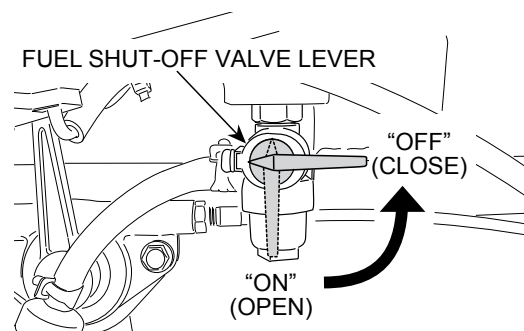

Figure 15. Fuel Shut-off Lever (OFF)
2. Move the fuel shut-off valve lever to the OFF (Closed) position (Figure 15)